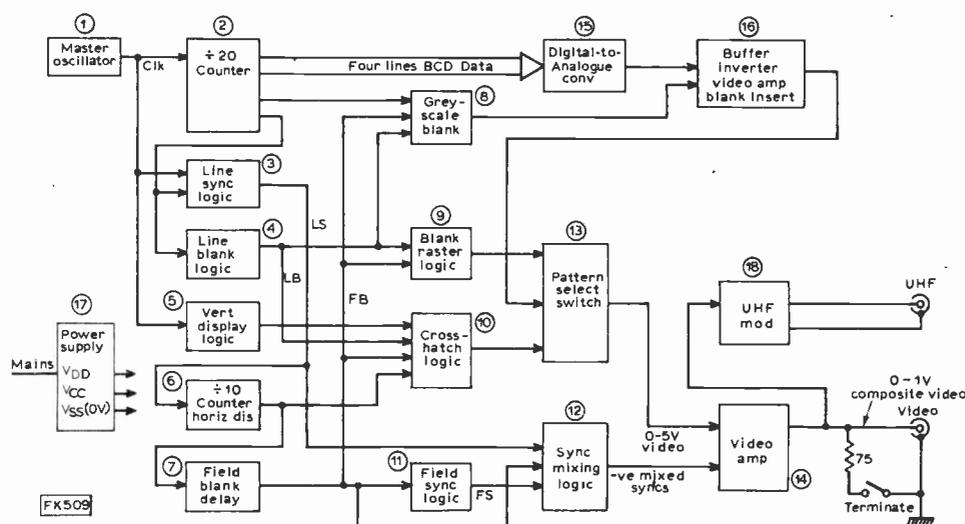

Fig. 1: Block diagram of the complete pattern generator.
An i.c. master oscillator (see Fig. 1) is used, with a trimmer to set the frequency. One bonus of this arrangement is that the behaviour of the monitor's or receiver's timebases can be observed under different pulse rates. This was not the prime consideration of course. The oscillator provides a $1.6\mu\text{s}$ pulse every $3.2\mu\text{s}$ and is set to give a line period of $64\mu\text{s}$.
The block diagram (Fig. 1) shows the functions carried out in the unit. This is a simplified diagram and it should be noted that some of the i.c.s are used to perform more than one group of functions. The master oscillator (1) provides our $1.6\mu\text{s}$ clock pulses. The divide by twenty counter (2) provides data for the grey-scale pattern. The line sync logic (3) is used to provide a $4.8\mu\text{s}$ pulse every $64\mu\text{s}$ while the line blanking logic (4) provides a $12.8\mu\text{s}$ blanking pulse. The vertical display logic (5) uses a CR network to produce a bright-up pulse from negative-going clock pulse
In the following circuit description reference should be made to both the block diagram (Fig. 1) and the complete circuit (Fig. 2).